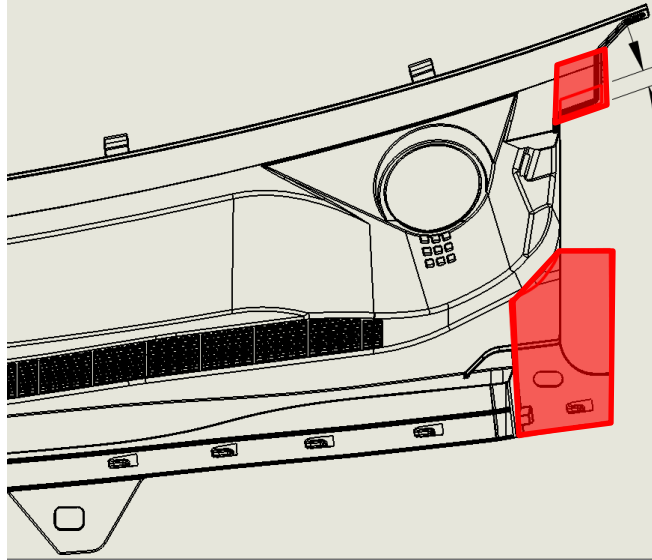

Fig 3
- b. Trim off the areas indicated with the outlines in Fig 3 on the driver side of the cowl